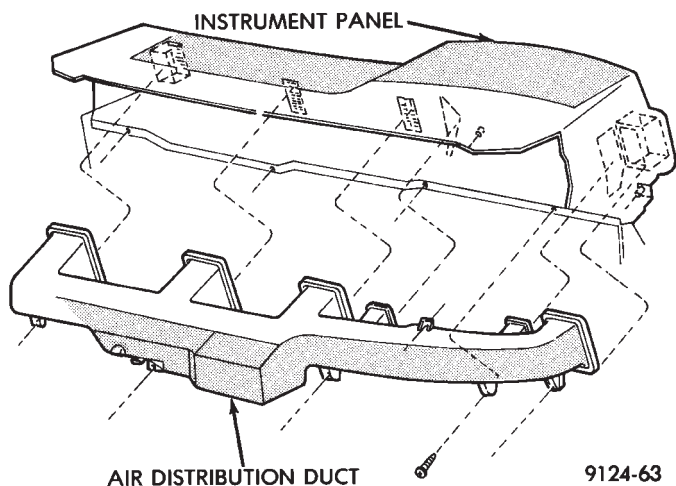

Fig. 1 Air Distribution Duct
(1) Instrument panel assembly must be removed. Refer to Group 8E, Instrument Panel and Gauges.
(2) After instrument panel has been removed, separate the defroster/demister ducts from the air distribution duct.
(3) Remove the air distribution duct-to-instrument panel mounting screws (Fig. 1).